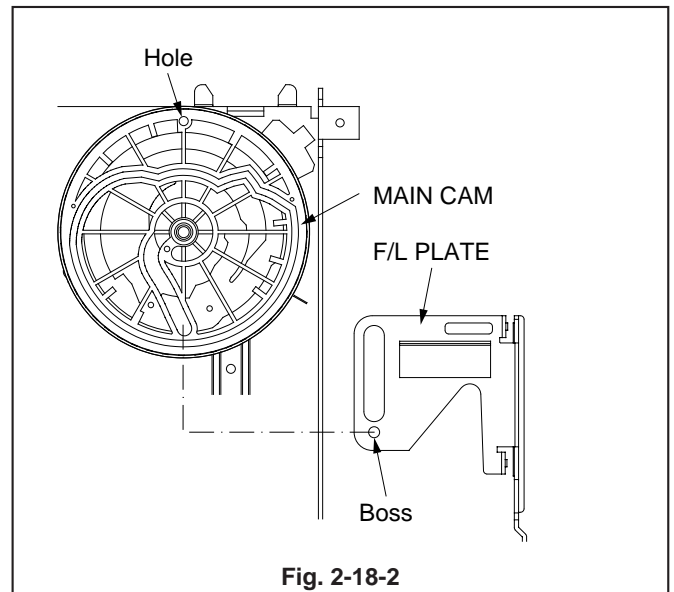

Fig. 2-18-2
6. Align the hole in the MAIN CAM with the hole in the MAIN PLATE ASSY shown in Fig. 2-18-2.
8. Insert the boss of the F/L PLATE shown in Fig. 2-18-2 into the groove of the MAIN CAM.
1. Release the boss of the F/L PLATE from the groove in the MAIN CAM by lifting the F/L PLATE shown in Fig. 2-18-2.
6. Put the boss of the F/L PLATE back into the groove in the MAIN CAM shown in Fig. 2-18-2.